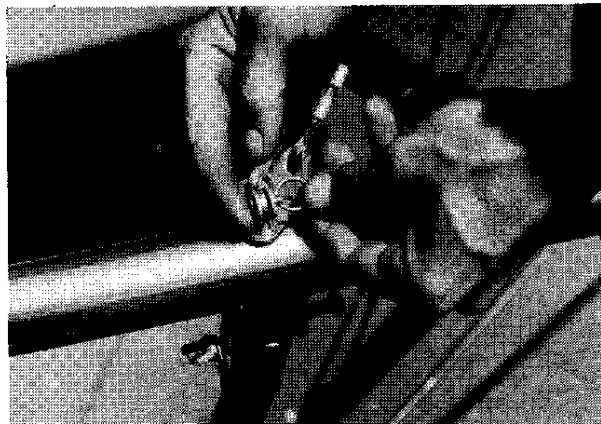

Figure 2.27
- 33.** Attach right and left lower tail wires to axle eye-bolts using (2) shackles, 3/16" clevis pins, and safety rings. **Figure 2.27**